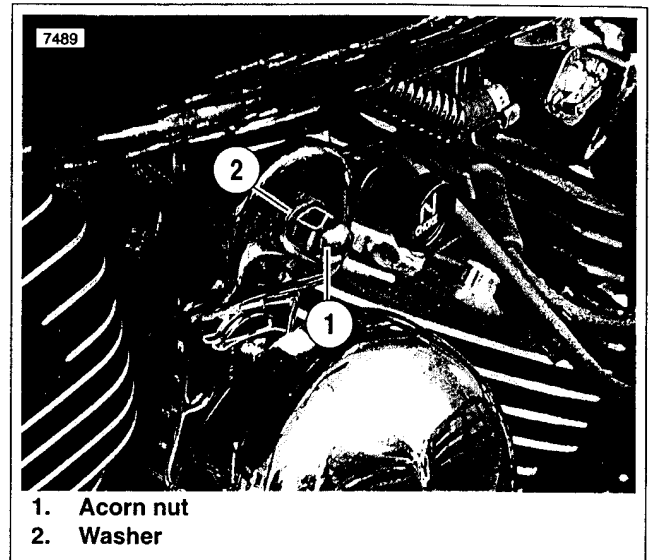
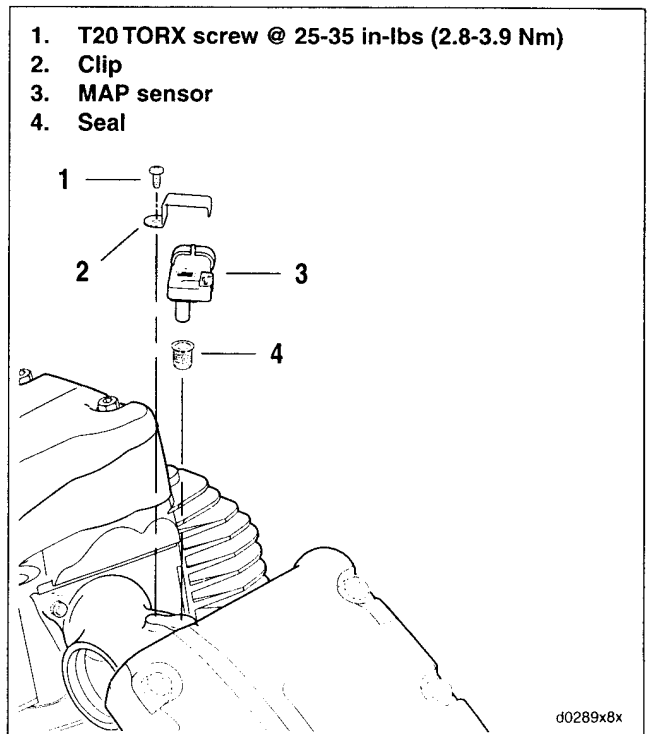

Figure 8-12. Horn Mount
Figure 8-13. MAP Sensor
3. See Figure 8-12. Remove acorn nut (1) and washer (2) to detach horn from mount. Push horn aside.
6. See Figure 8-13. Using a T20 TORX bit, extension and universal socket, remove screw (1) and clip (2) from top of MAP sensor (3).
7. Using appropriate tool gently remove (push up) MAP sensor and attached seal (4) from intake manifold.
2. See Figure 8-13. Install (push) MAP sensor (3) and seal (4) to intake manifold.
3. Position clip (2) in slot on MAP sensor and install T20 TORX screw (1). Tighten to **25-35 in-lbs (2.8-3.9 Nm)**.
5. See Figure 8-12. Attach horn with washer (2) and acorn nut (1). Tighten to **110 in-lbs (12.4 Nm)**.